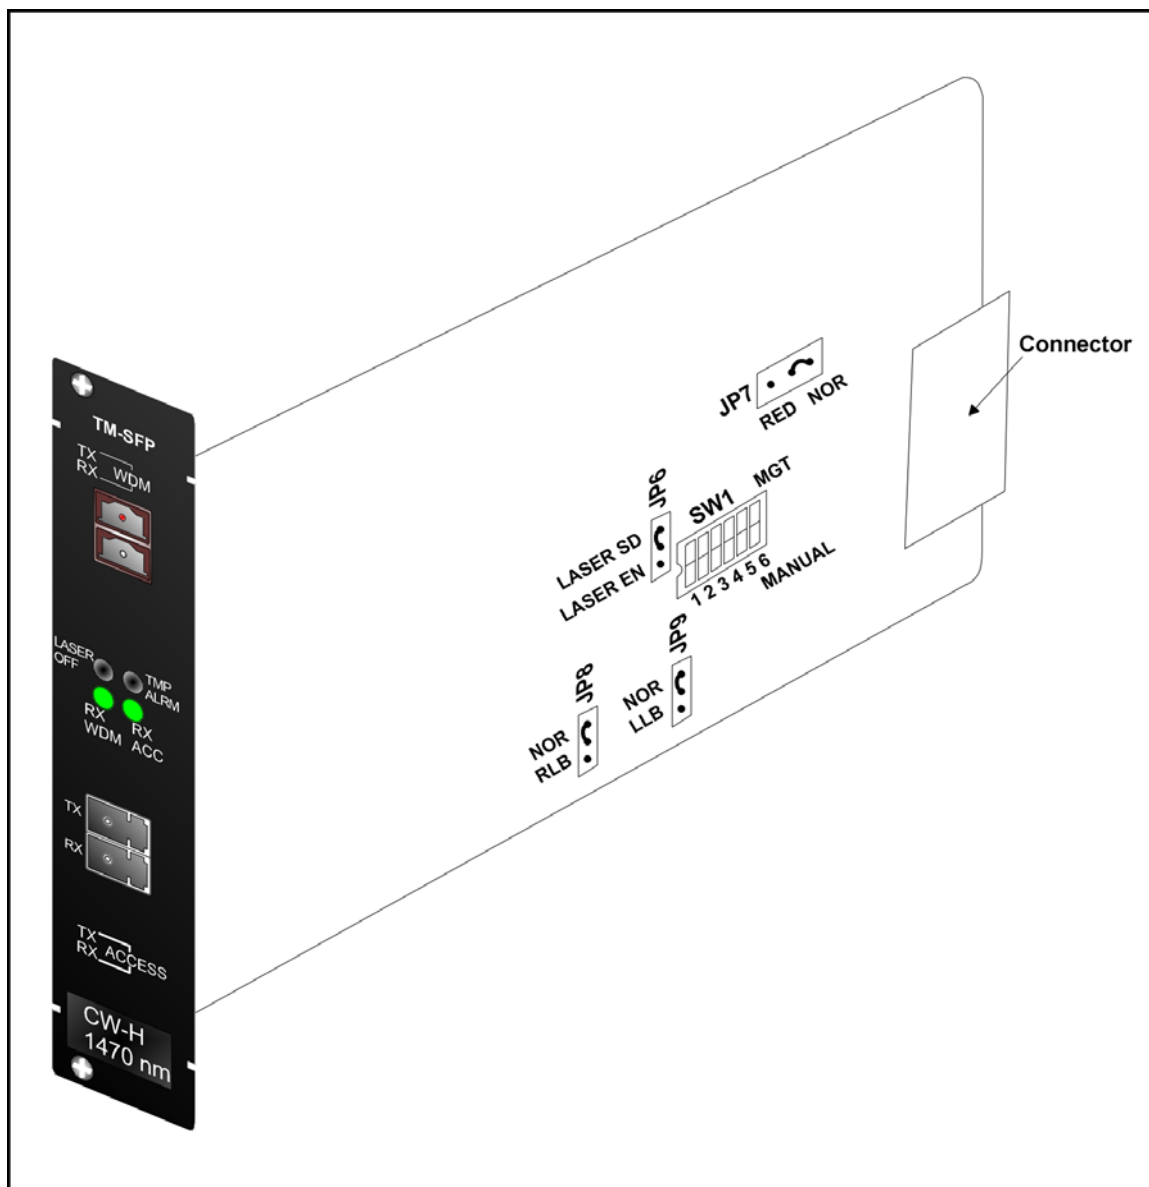

Figure 38: DIP Switch Location on TM-SFP Transponder Module
1. With the aid of *Figure 38*, locate Jumper **JP6** on the TM-SFP Transponder module and position it using *Table 6*.
2. With the aid of *Figure 38*, locate Jumper **JP7** and position it using *Table 7*.
3. With the aid of *Figure 38*, locate Jumper **JP8** and position it using *Table 8*.
4. With the aid of *Figure 38*, locate Jumper **JP9** and position it using *Table 9*.
5. With the aid of *Figure 38*, locate DIP switch **SW1** on the TM-SFP Transponder module. To enable configuration by *software*, set the DIP switch as shown in the *first* row of *Table 13*.